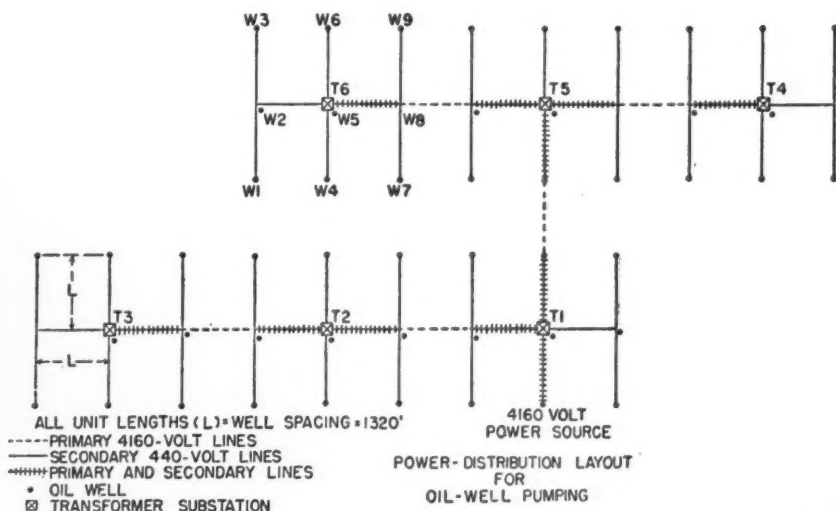

FIG. 11—Typical system layout, indicating wells (W), substations (T), primary and secondary lines.
loads tapped off a 440-volt feeder, such as Fig. 11, showed that if the *voltage drop as read directly from the 440-volt chart* did not exceed 10 percent, the actual minimum voltage at the farthest well location would not be less than 415 volts, which is the minimum operating voltage recommended.
- 1) Well layout, according to Fig. 11.
7) Substation under consideration, T6, Fig. 11.